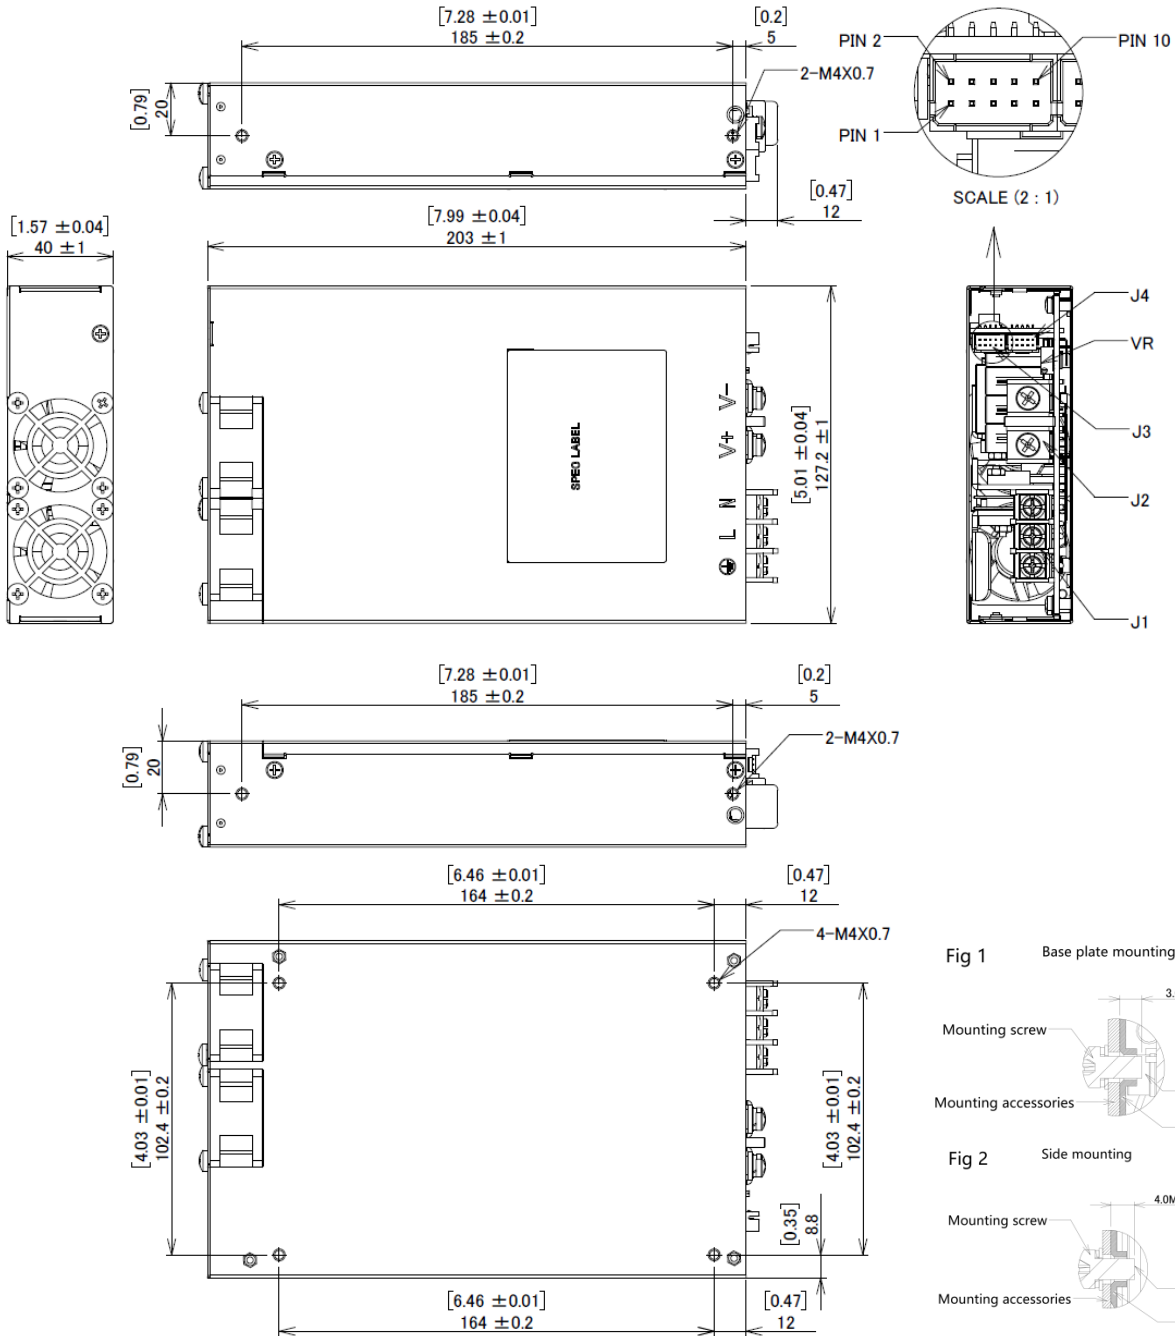

Fig 1 Base plate mounting
1. Base plate mounting, M4 thread holes, maximum penetration 3.0 mm (0.12 inch) from outside face of chassis, 10 kgf.cm (8.8 inch.lbs) Max torque refer to fig 1.